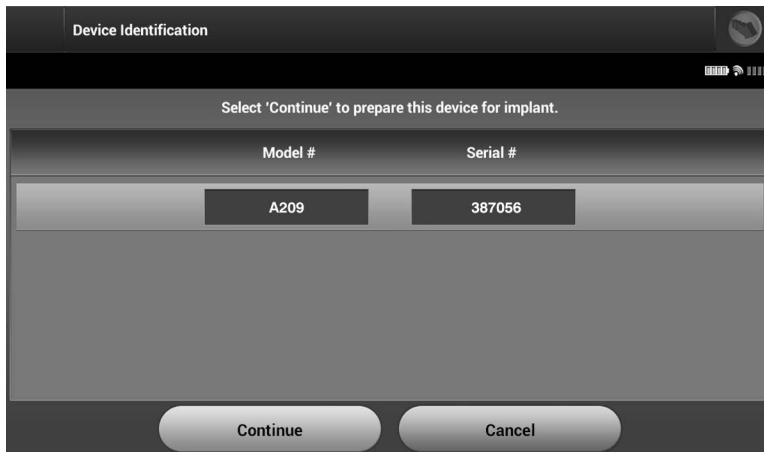

Figure 17: *Device Identification screen*
2. The Device Identification screen appears once communication is established with the pulse generator (Figure 17).